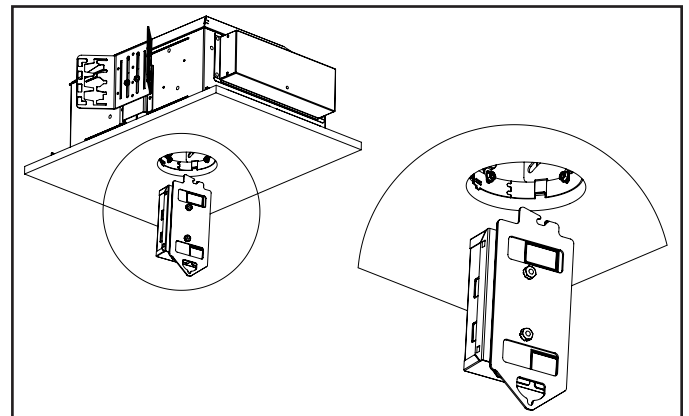

Figure 24.
9. Carefully pull the driver out of the ceiling recognizing the supply wires and dimming wires will follow the driver through the aperture (see Figure 24).